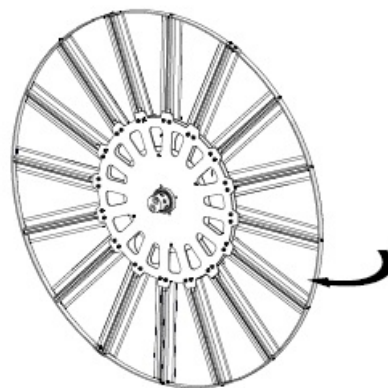

Fig. 8: Turning the Reel
9. The remaining work steps must be carried out from the other side (see Fig. 8).